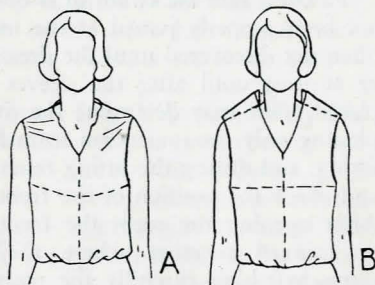

FIG. 7.—Wrinkles caused by shoulders being more square than those of standard figure.
4. Diagonal wrinkles from outer ends of shoulder seam to center front.—Shoulders more square than those of standard figure will cause this trouble. Take a wider seam at the neck and graduate to normal width at outer edge (Fig. 7).